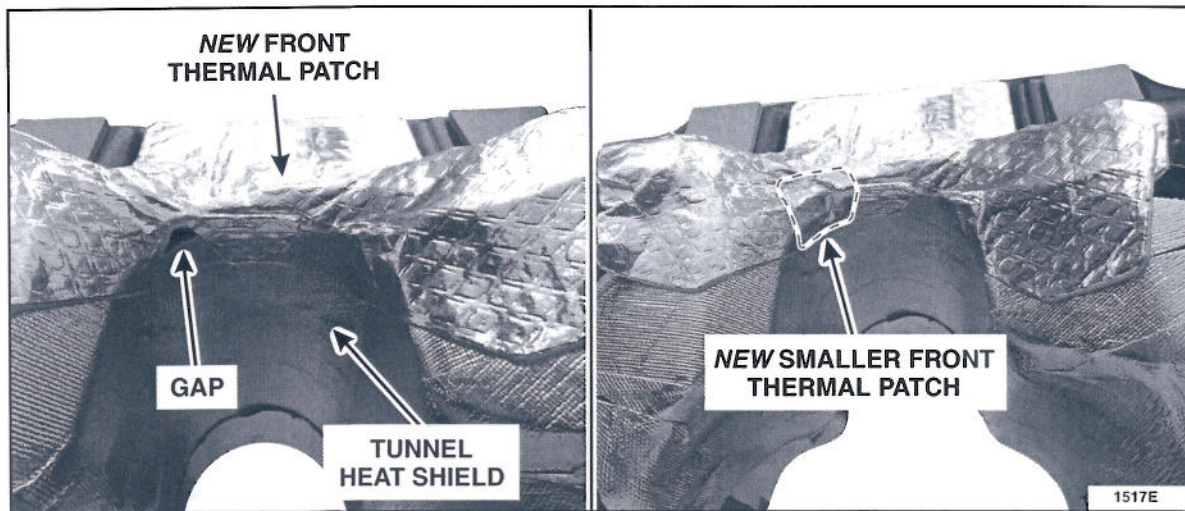

FIGURE 5
6. Apply the *new* smaller thermal patch over the gap between the tunnel heat shield and *new* front thermal patch. See Figure 5.